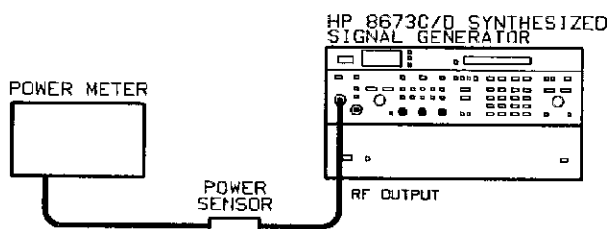

Figure 5-30. Low Band Clamp Adjustment Test Setup
1. Connect equipment as shown in figure 5-30.